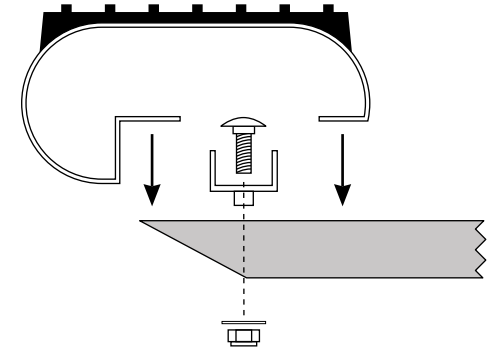

FIG 1b
3) Rotate clamp brackets above main brackets, making sure that both edges of the running board are in between the clamp bracket and the main bracket. Make sure running board is pushed all the way in towards vehicle on main brackets. **Fig 1b**